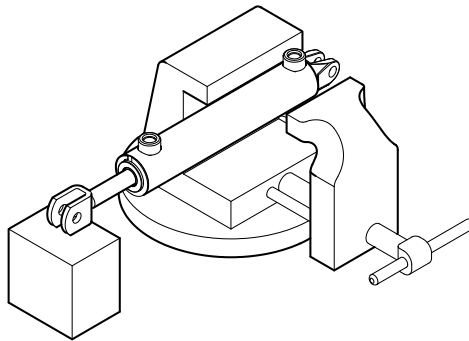

Figure 5-1, Cylinder Vise
2. Clamp the cylinder lightly at the base end in a soft jawed vise. Use a block or other support under the rod end of the cylinder. (Figure 5-1)